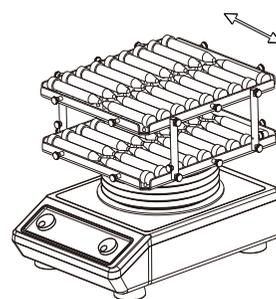

Figure 4
- (1). The maximum load on upper layer cannot exceed 1Kg at 70rpm.
- (2). It can be used with rubber strips(88882103) to prevent the tube falling off due to too large swinging Angle, The direction of tube placement as shown in the figure 4.